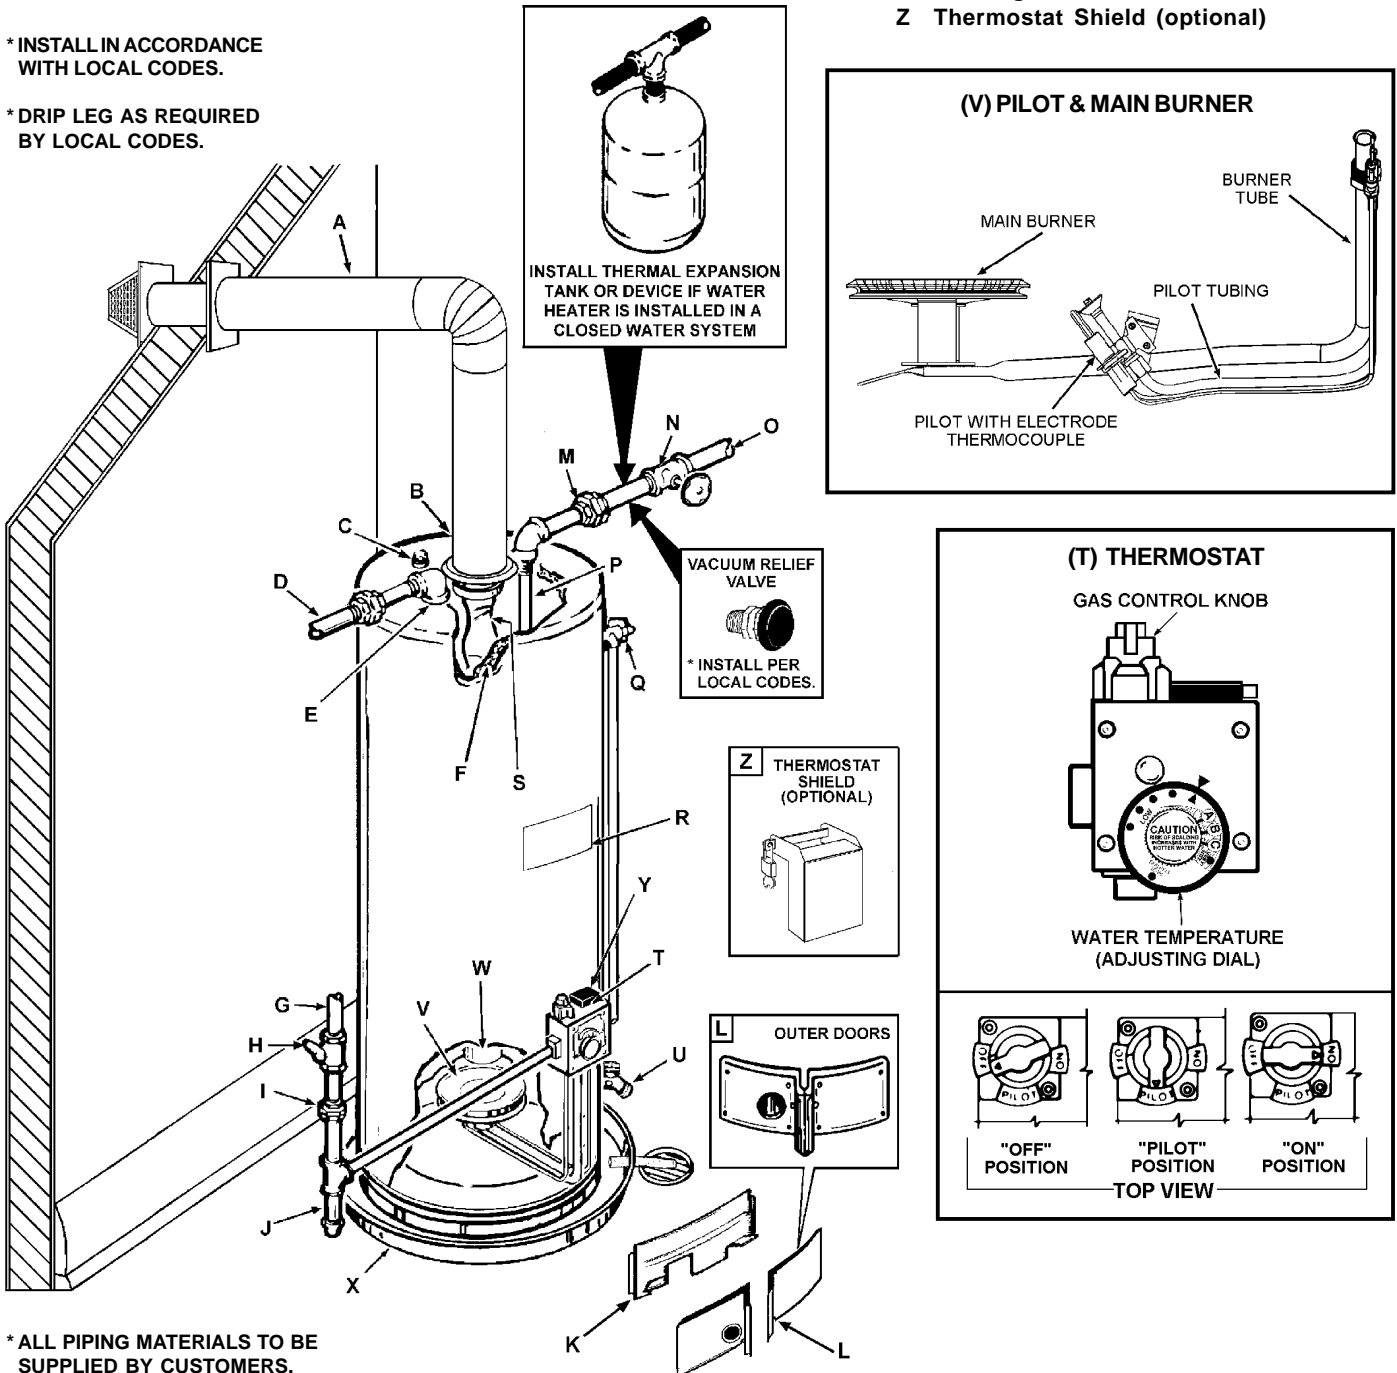

FIGURE 1.
4. Carefully plan the place where you are going to put the water heater. Correct combustion, vent action and vent pipe installation are very important in preventing death from possible carbon monoxide poisoning and fires, see Figures 1 and 2.